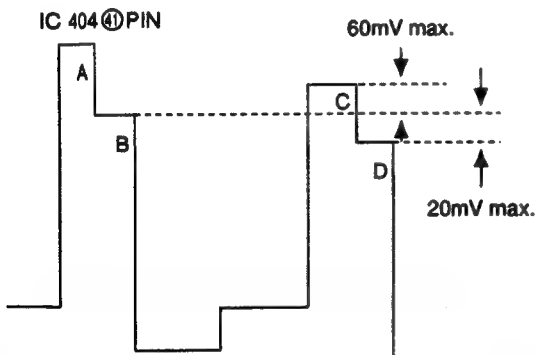

Fig. 5-19
- 2) Connect the probe of an oscilloscope to IC 404 ④ PIN or TP401.
- 4) Adjust **R-Y LEVEL NTSC 358** so that the peaks of waveforms will be flush with each other as shown in Fig.5-19.